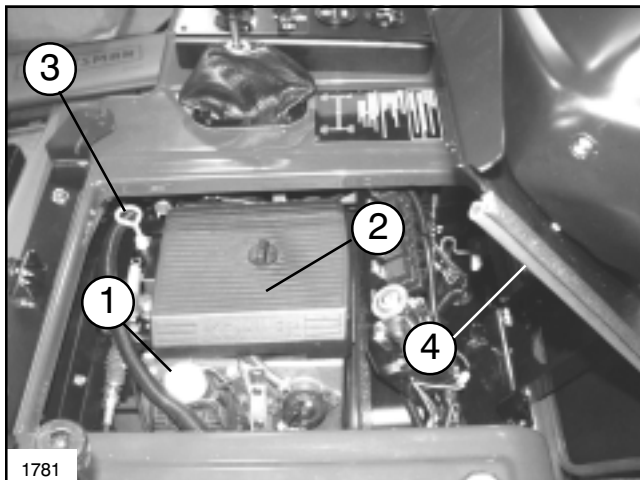

FIG. 14
1. Have the machine on a level surface with the engine OFF. Tilt seat forward to gain access to the engine compartment. (See FIG.14)